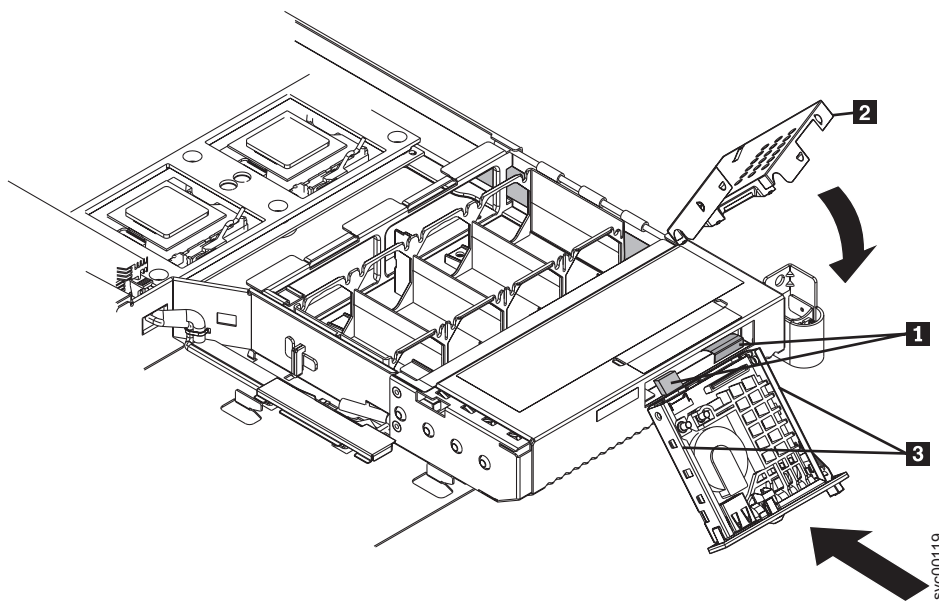

Figure 231. Replacing the operator-information panel
1. Plug in the two cables on the rear of the assembly **1**. See Figure 231.